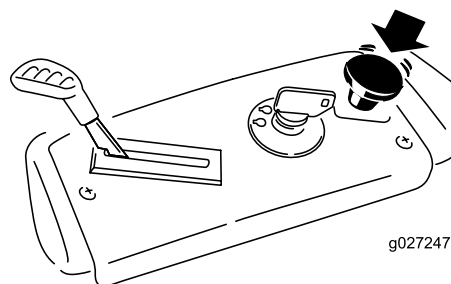

Figure 12
1. Disengage the blades by pushing the blade-control switch to Off (Figure 12).